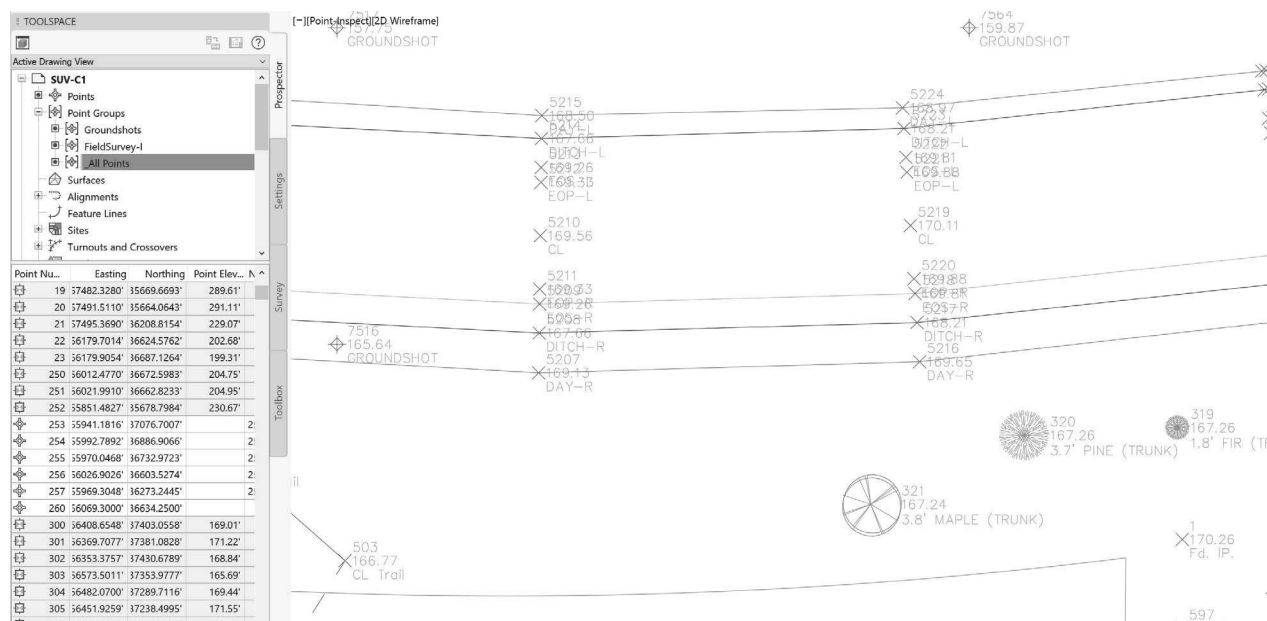

Figure 2–50
16. In the View tab>*Named Views* panel, expand the drop-down list and select **Point-Inspect**. This zooms into an area located east of the existing road, as shown in Figure 2–50. Note that when this view is restored, the viewing scale also changes to **1" = 20'**, for that is stored in the view definition.